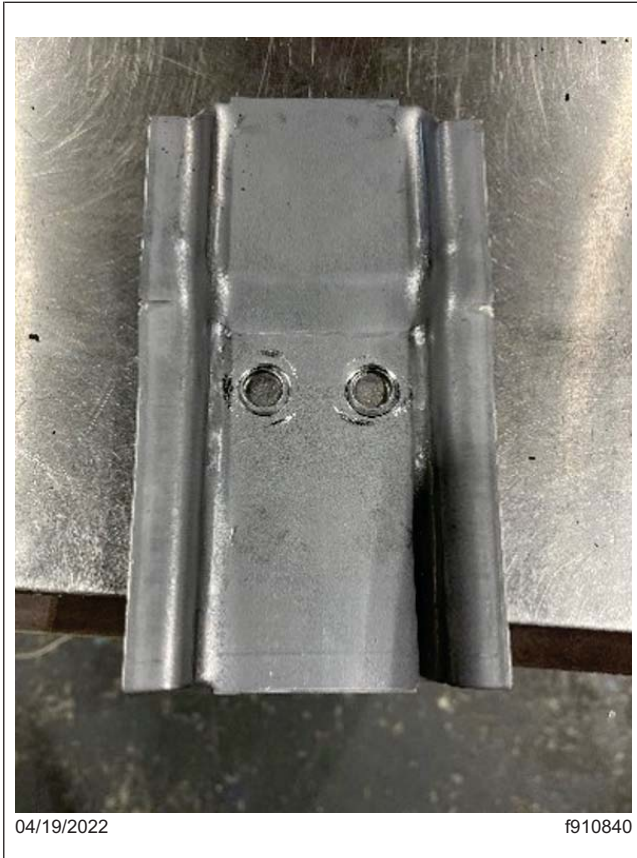
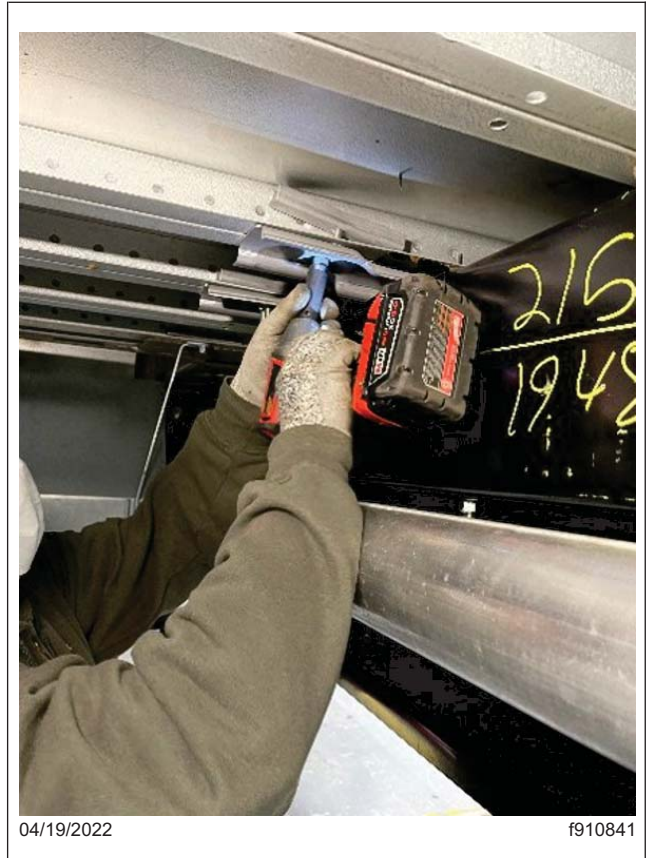

Fig. 2, Body Mounting Clip
Fig. 3, Body Mounting Clip Removal
- Starting from the rear bumper, remove the two rear shear bolts, and the body mounting clips till approximately two window sections in front of the rear axle. See Fig. 2 and Fig. 3. The number of body mounting clips may vary depending on the vehicles option content, and length.